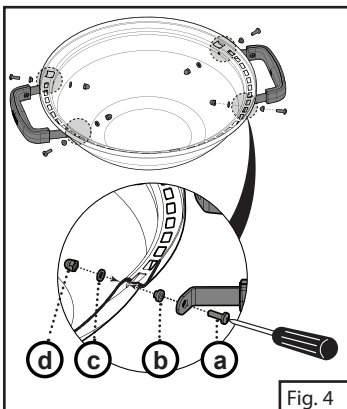

Fig. 4
- Attach handles using the provided hardware and a screw driver (not provided). See steps below and Figure 4 for detail.